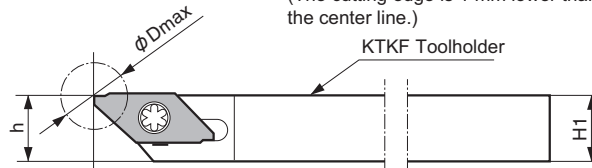

Fig.7 When a TKF-NB insert is attached
2) If the 1 mm adjustment is not possible, use the TKF. . -NB (See Fig.7).